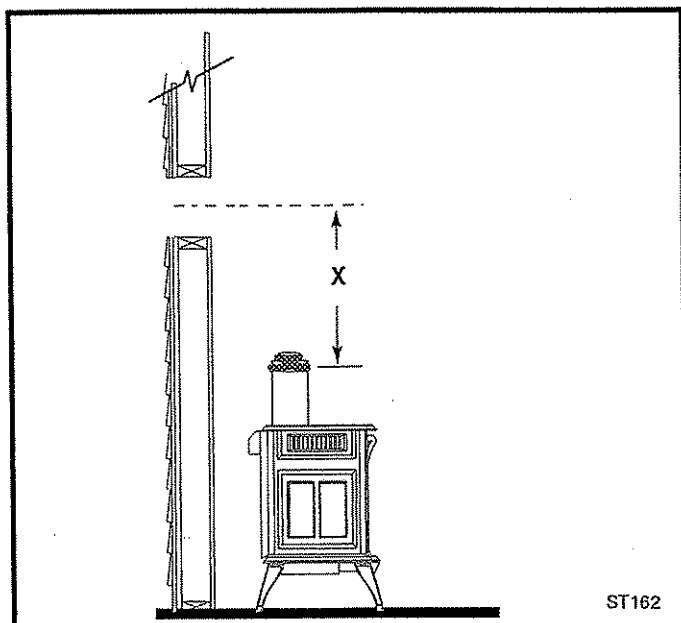

Fig. 31 Determine the vertical pipe length.
4. If you have not already done so, measure to determine the vertical length (X) of pipe required from the flue collar to the wall cutout centerline. (Fig. 31) Use a hacksaw to trim the pipe as necessary.